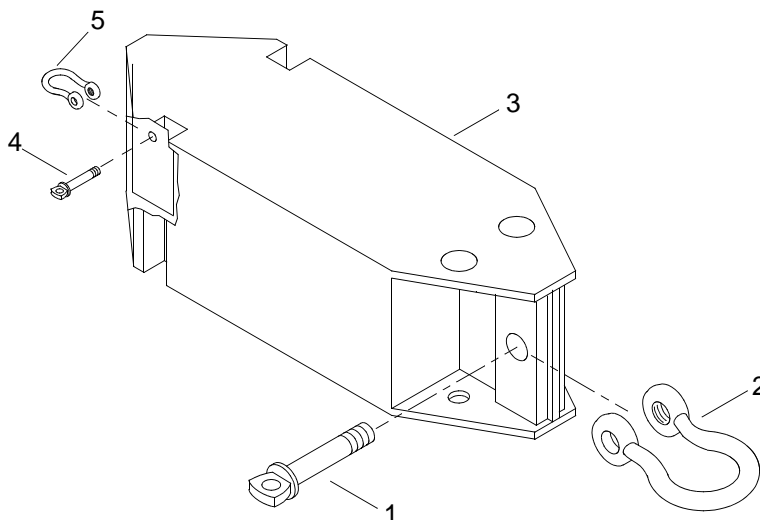

Figure 1. Flexor Receiver Insert
1. Remove pin (figure 1, item 1) from shackle (figure 1, item 2).
2. Remove shackle (figure 1, item 2) from flexor receiver insert (figure 1, item 3).
3. Remove pin (figure 1, item 4) from shackle (figure 1, item 5).
4. Remove shackle (figure 1, item 5) from flexor receiver insert (figure 1, item 3).